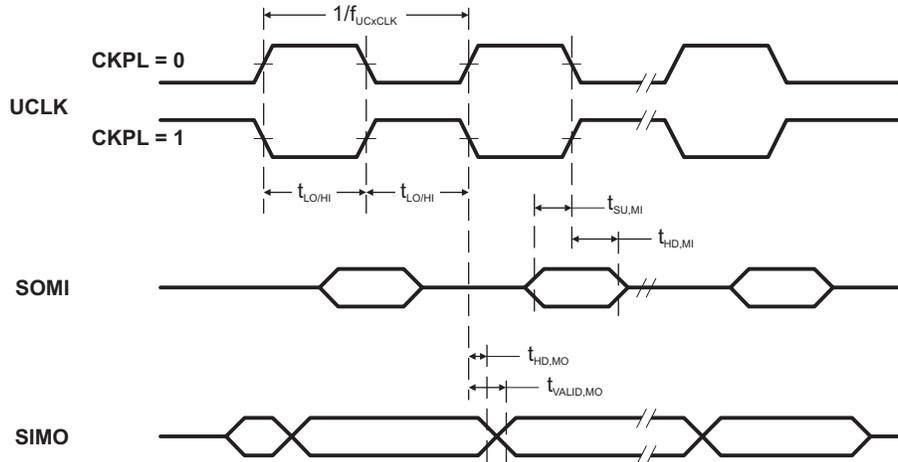
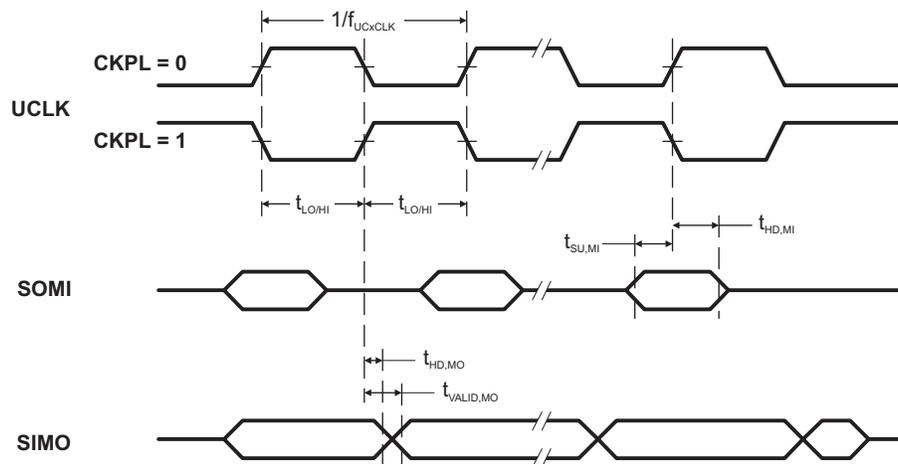

Figure 13. SPI Master Mode, CKPH = 0
Figure 14. SPI Master Mode, CKPH = 1
(see Note (1), Figure 13 and Figure 14)
(2) Specifies the time to drive the next valid data to the SIMO output after the output changing UCLK clock edge. Refer to the timing diagrams in Figure 13 and Figure 14.
(3) Specifies how long data on the SIMO output is valid after the output changing UCLK clock edge. Negative values indicate that the data on the SIMO output can become invalid before the output changing clock edge observed on UCLK. Refer to the timing diagrams in Figure 13 and Figure 14.
- (2) Specifies the time to drive the next valid data to the SOMI output after the output changing UCLK clock edge. Refer to the timing diagrams in Figure 13 and Figure 14.
- (3) Specifies how long data on the SOMI output is valid after the output changing UCLK clock edge. Refer to the timing diagrams in Figure 13 and Figure 14.